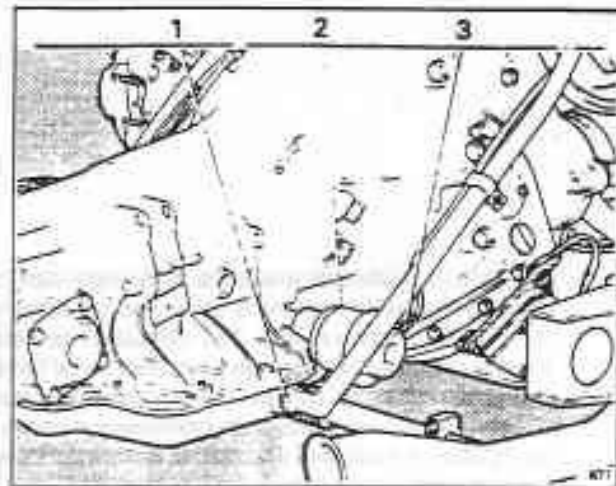

Fig. T8-3 Vacuum modulator and vacuum pipe
2. Disconnect the vacuum pipe at the modulator end if the transmission is in the car (see fig. T8-3).